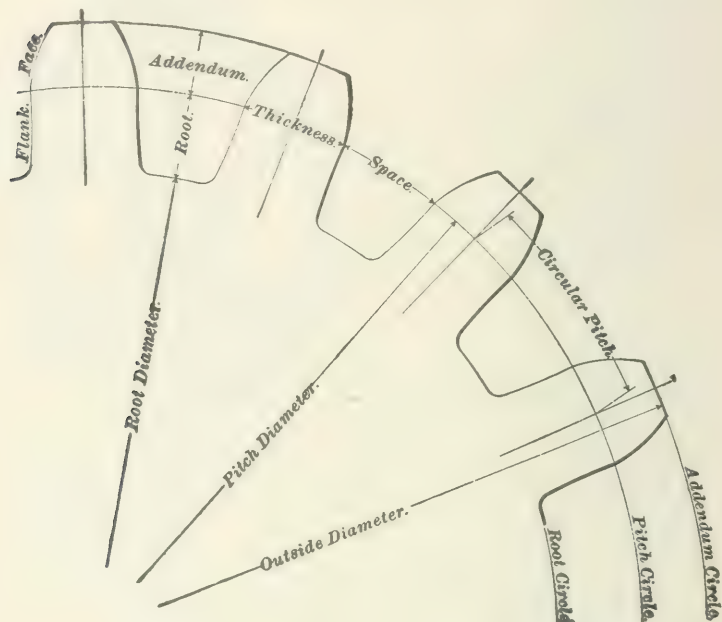

FIG. 24.
46. The object in designing the teeth of gear-wheels should be to so shape them that the motion transmitted will be exactly the same as with a corresponding pair of wheels, or cylinders, without teeth and running in contact without slipping. Such cylinders are called **pitch cylinders**, and are always represented on the drawing of a gear-wheel by a line called the **pitch circle** (see Fig. 24). The pitch circle is also called the **pitch line**.
48. Other Definitions.—The other necessary definitions applying to the parts of a gear can be readily understood from Fig. 24. The thickness of the tooth and the width of the space are measured on the pitch circle. A tooth is composed of two parts, the **addendum**, or part outside of the pitch circle, and the **root**, which is inside.